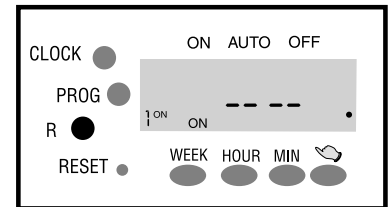

Figure 6
- 2.1 Press **PROG** to enter program mode. The display should show "1 ON" (See Figure 6).
Please **press "R" for canceling the program settings** (See Figure 6) **and press it again to return to the pervious weekday setting.**